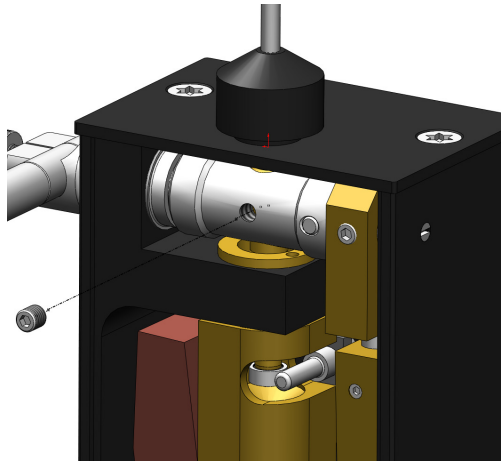

Figure 8 - Grub Screw Removal
1. Loosen the grub screw at the front of the pivot assembly as shown in Figure 8.